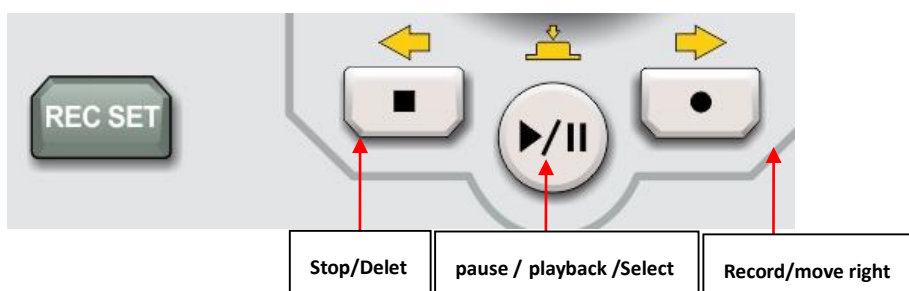

Figure 17-2
- (1) The ① on the above figure is CHA/ CHB information: The currently selected channel will be highlight.
- (2) "Limit" represents output amplitude limit, white is valid, gray is invalid.
- (3) The ② on the above figure is waveform reference list: Display the parameter of waveform in the list format. If an item in the list is in white, then it can use menu operating soft key, numeric keyboard, direction key or Multipurpose knob to adjust the parameter. If the base color of the current character is the color of the current channel (It is white when the system is in setting), which represents the character is in the editing state and can be set with the direction key (as shown in Figure 17-2) or use the numeric keypad or Multipurpose knob to set the parameter.